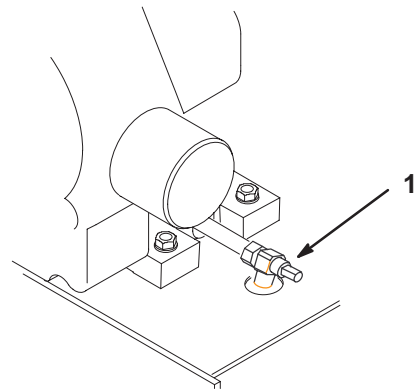

Figure 34
3. Place a pan below the oil drain. Use either a flat screw driver, 3/8 in. or 10 mm wrench to open valve (Fig. 34).
4. Rotate valve end clockwise to close valve. Rotate valve end counterclockwise to open valve (Fig. 34).